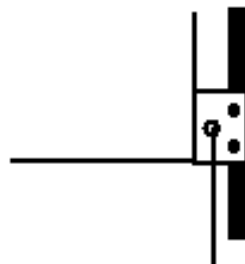

Figure E6
9. Thread the cut lever through the end bracket and under the ladder. Slide the side bracket over the cut lever handle and glue it to the side of the ladder for Series 1 - 3. In the later Series, glue to the grab iron which is the bottom step. See Figures E6 and E.